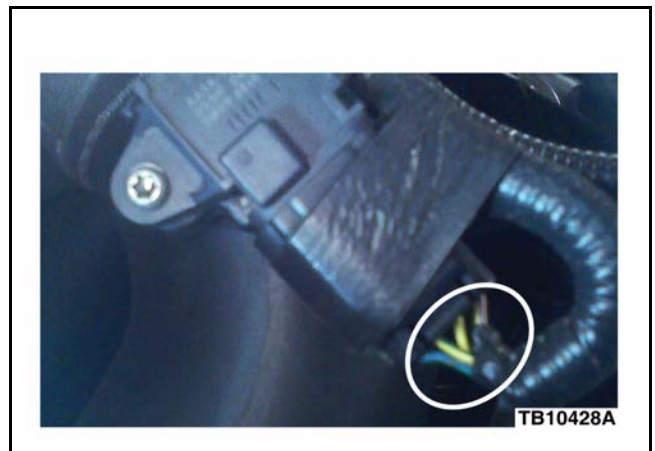

Figure 1 - Article 13-6-12
3. Inspect for damage the wiring harness at the Turbocharger Boost Sensor connector C1588 for crack to wiring insulation. (Figure 1)